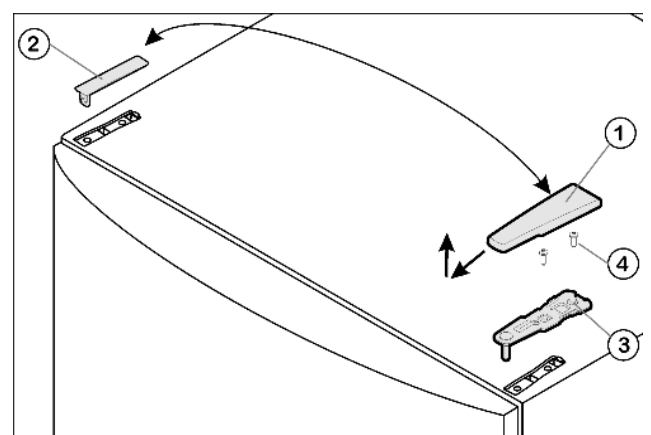

Fig. 4
- Pull off the cover Fig. 4 (1) forwards and upwards.
- Lift off the cover Fig. 4 (2)
- Unscrew the upper turn hinge Fig. 4 (3) (2 Torx 25) Fig. 4 (4) and raise it for removal.
- ▶ Insert the upper turn hinge *Fig. 4 (3)* in the door on the new hinge side.
- ▶ Screw the top turn hinge firmly into place (**with 4 Nm**), (2x Torx 25) *Fig. 4 (4)*. Possibly make preliminary holes with a bradawl or use a cordless screwdriver.
- ▶ Apply the cover *Fig. 4 (1)* and cover *Fig. 4 (2)* to the opposite side from the outside and snap them into place.